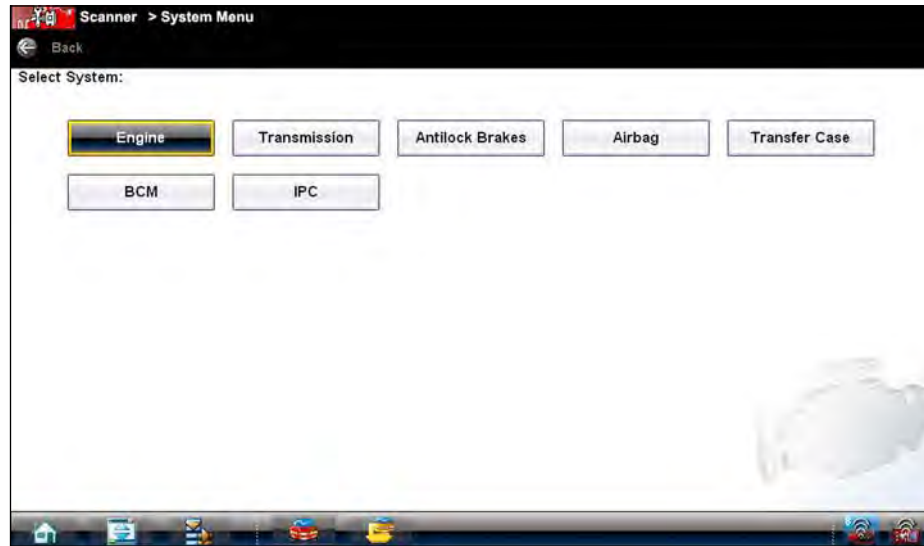

Figure 5-8 Sample available tests list
5. Select a test to continue (Figure 5-8).